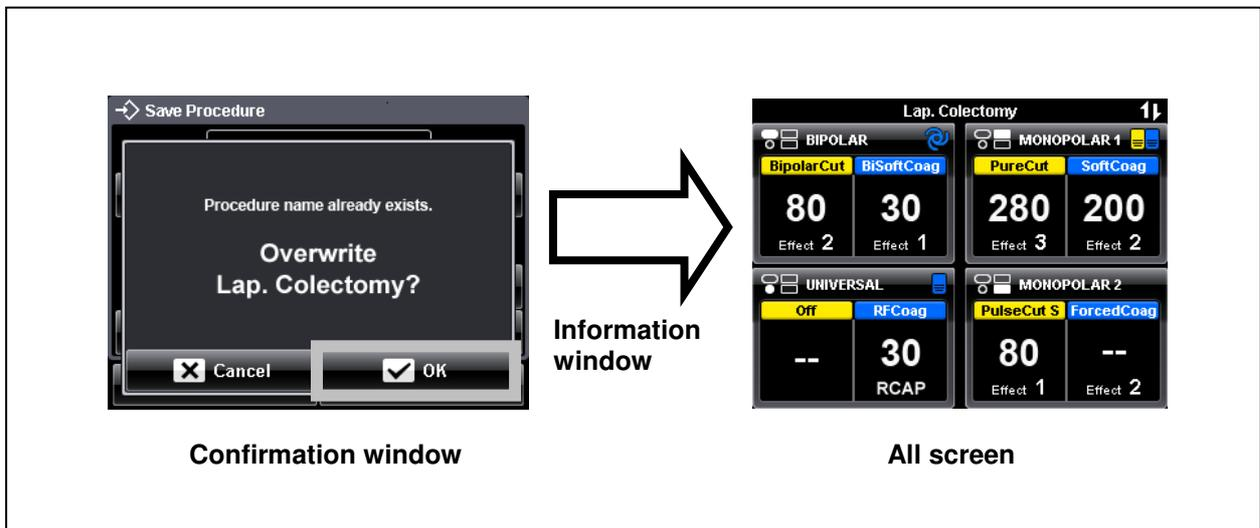

Figure 6.9
- To overwrite the procedure, press the “OK button” (see figure 6.9).